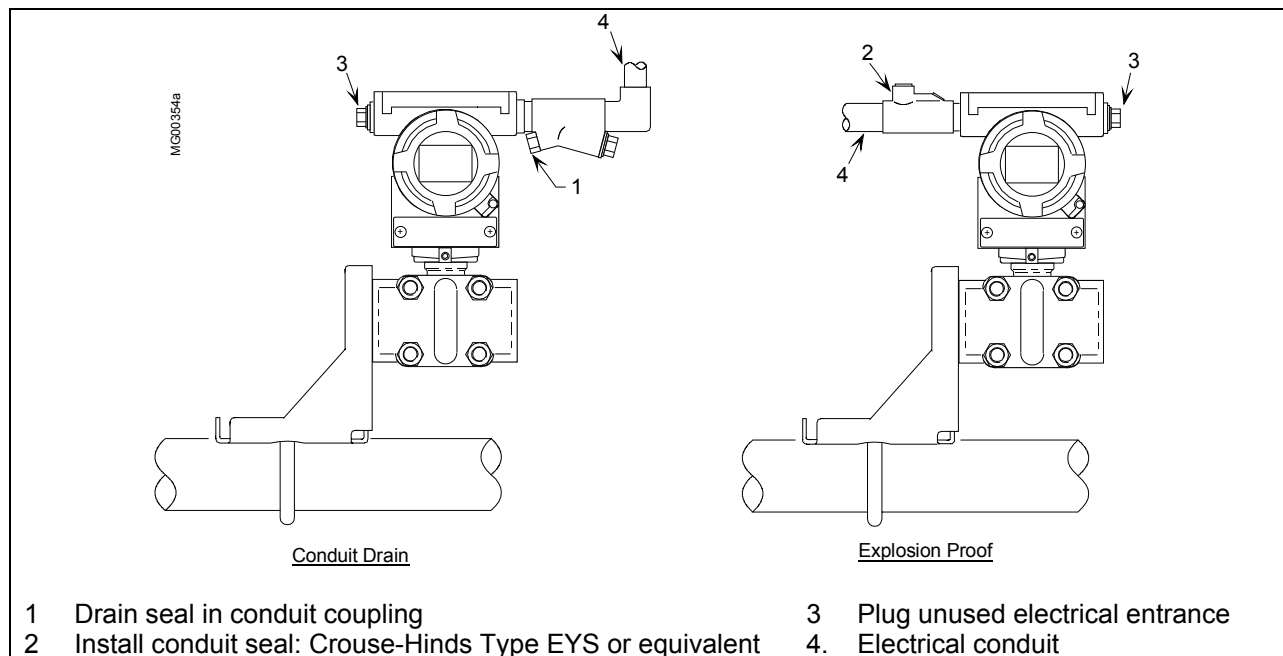

FIGURE 4-15 Conduit Drain and Explosion Proof Installations
- If a high humidity environment can exist and the transmitter is located at a low point in the conduit run, install drain seals at the transmitter's conduit inlets to prevent condensation from entering the transmitter. See Figure 4-15.
- User-supplied explosion-proof conduit seals (glands) are required on transmitter housing conduit outlets and any installed junction boxes. See Figure 4-15.